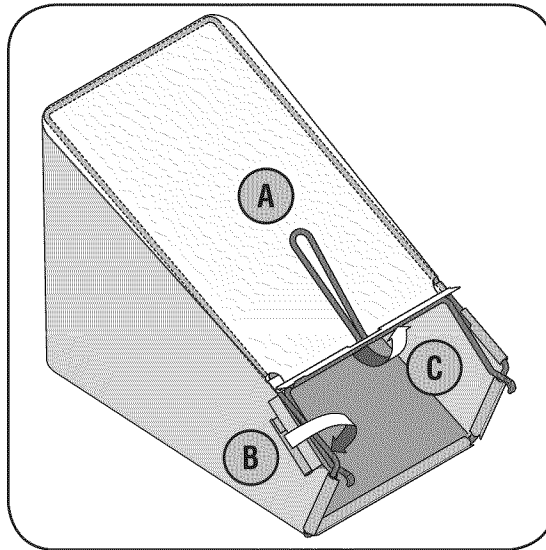

Figure 3-6
- b. Slip plastic channel of grass bag over hooks on the frame. See Figure 3-6. All plastic channels except center top of bag attach from outside of bag.